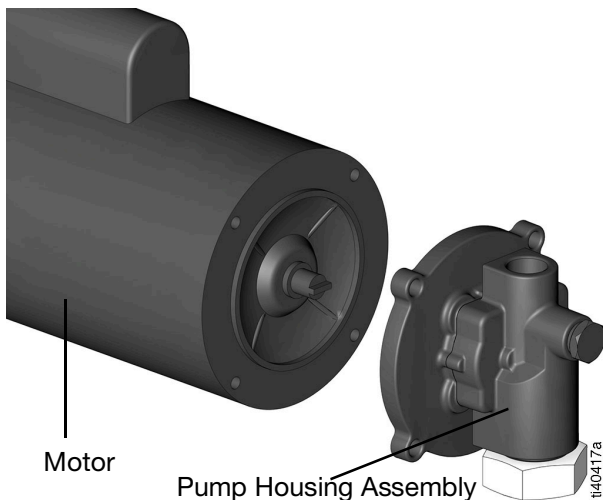

FIG. 9
6. Remove the pump housing assembly from the motor (FIG. 9).